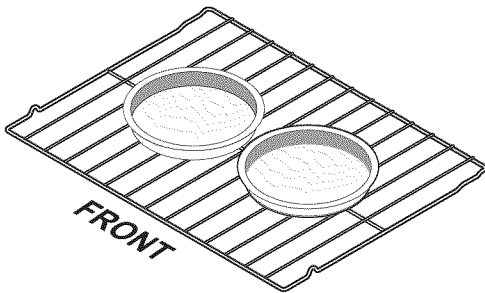

Figure 18: Upper oven pan spacing
- Allow at least 2 inches (5 cm) of space between the right and left side of the bakeware and the oven cavity's wall for proper air circulation (Figure 18).